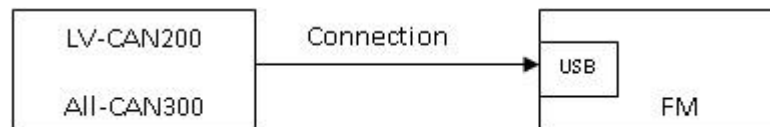

Figure 68 Connect adapter LV-CAN200 to FMB640
When FMB640 is connected to CAN adapter (Figure 68), wait 10s (Note, that car engine must be started), disconnect adapter from FMB640, and connect PC USB cable to FMB640 Device, It is very important not to disconnect FMB640 from power source during this operation, because if FMB640 is reconnected all received CAN bus data will be lost. FMB640 remembers received data from LV-CAN200 or ALL-CAN300 and at the end user will see all CAN data which is sent by adapter. Enable CAN data which needs send to server and save configuration pressing “Save to device” button.
1. In car, connect LV-CAN200 or ALL-CAN300 to CAN bus and to the FMB640 device (Figure 68) wait 10 seconds. Note, that car engine must be started.